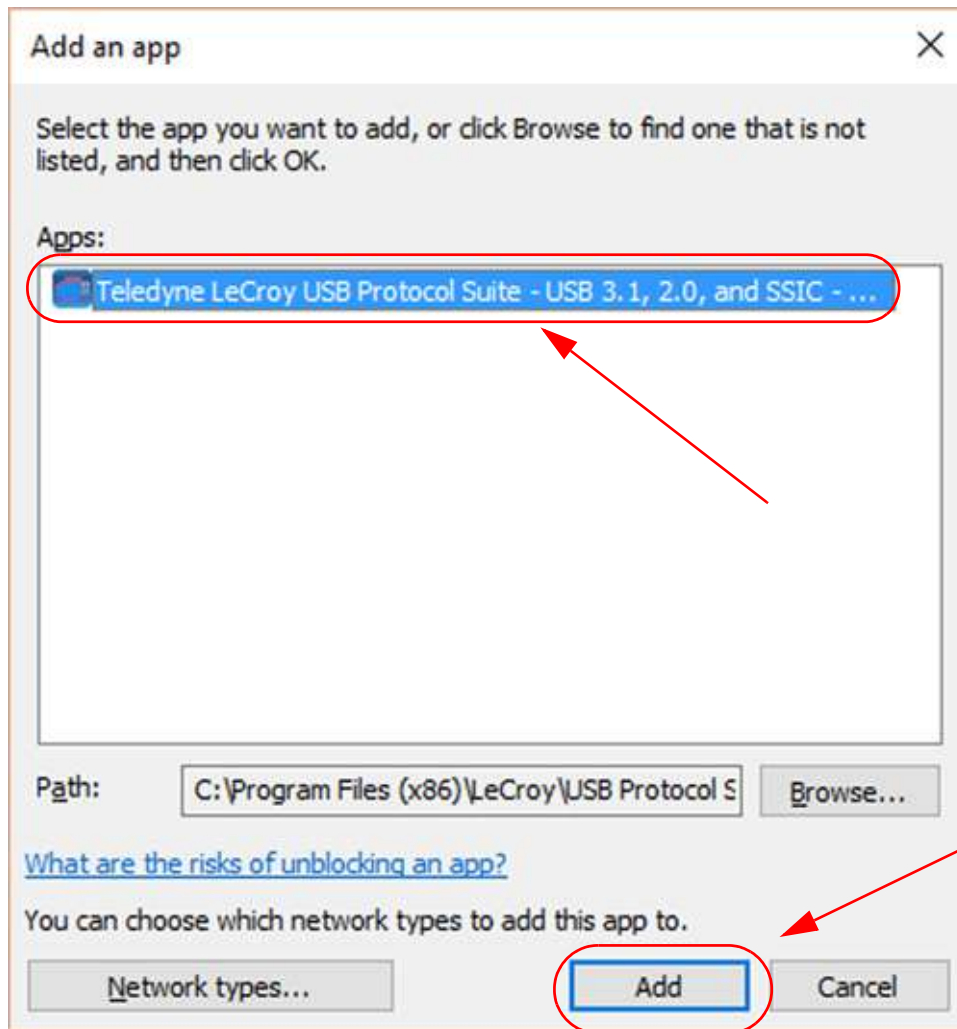

Figure 3.18: Windows 10: Add an Application to the Firewall Exceptions
10. After the Application has been added, you can see it in the “Allow apps to communicate through Windows Firewall” screen. See Figure 3.18.